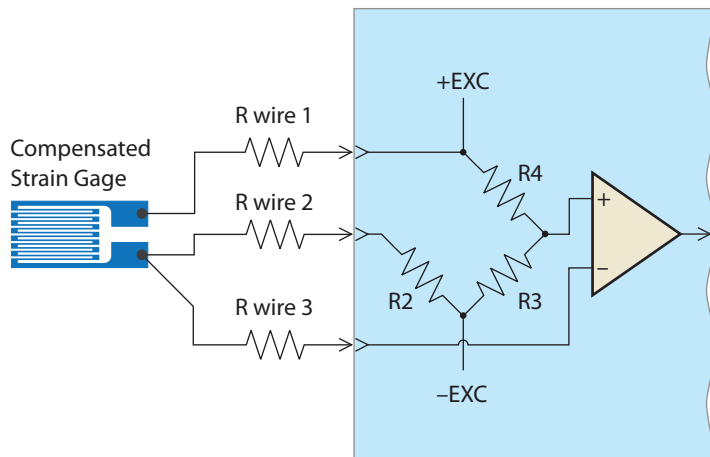

Figure 1: 3-Wire Wheatstone Bridge Connection to a Compensated Strain Gage
- 1) Any resistance in the current carrying lead wires (R wire 1 and R wire 2 in Figure 1) causes a decrease in gage sensitivity. While channel gain can be used to compensate for nominal desensitization, extension wire resistance variations with temperature during the test cause multiplicative measurement uncertainty.